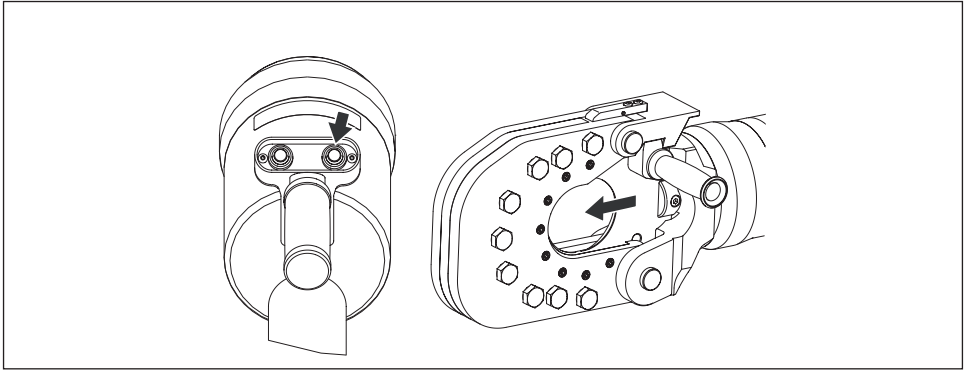

Figure 10, Operation - Advance/Cut
- Press and hold the **advance** push button to advance the piston and slide the moving blade forward. See Figure 10.